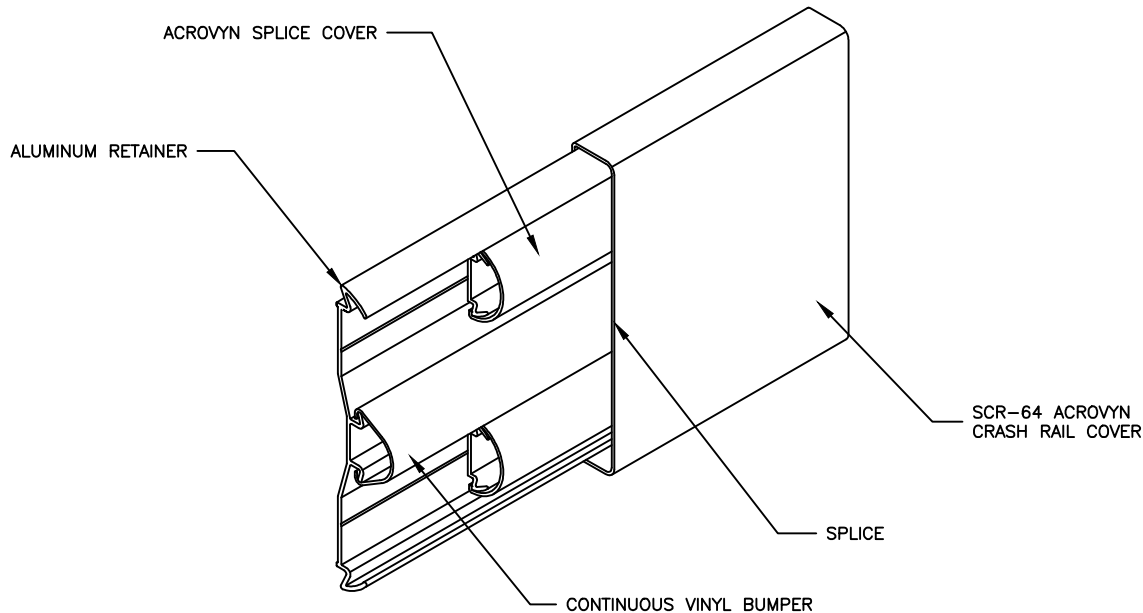

FIGURE 2.
5. ATTACH THE ACROVYN SPLICE COVER TO THE APPROPRIATE RETAINERS BY SNAPPING THEM INTO PLACE. REMOVE THE PROTECTIVE COVERING FROM THE FACTORY APPLIED ADHESIVE AND ATTACH THE ASSEMBLY TO THE RETAINER AT ALL ACROVYN SPLICE JOINTS. (SEE FIGURE 2)